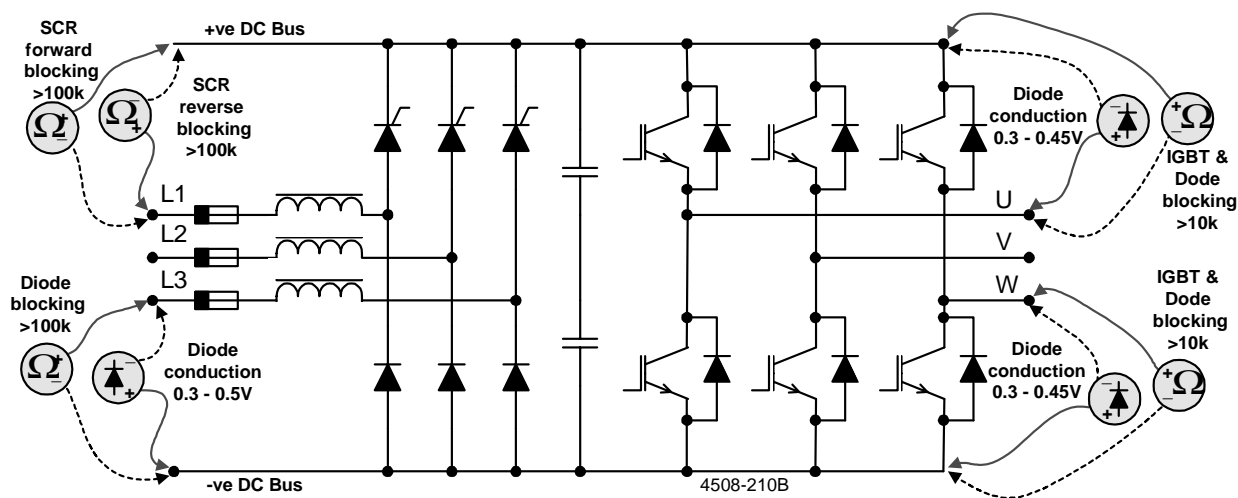
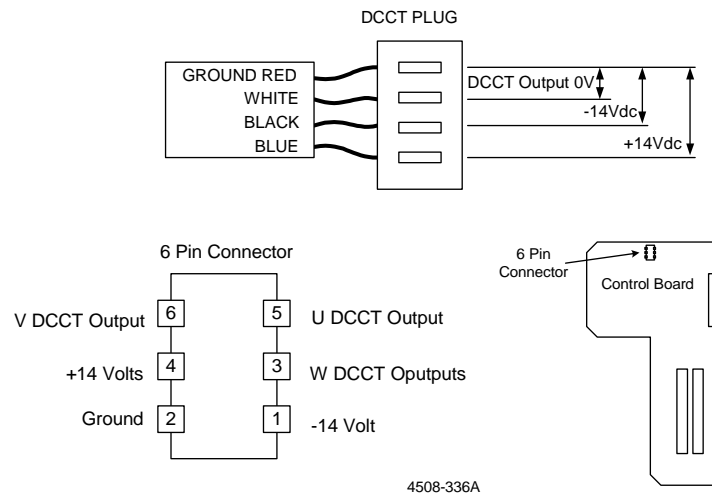

Figure 3.4: Rectifier and Inverter Testing Frame 4
Figure 3.9: DCCT and Supply Testing
Refer Figure 3.4 and using a multimeter check the rectifier as the drawing indicates.
The DCCTs measure motor current, and are located on the output of the Elite. DCCT failure may be indicated by **Fault 21 (Ground fault)** or **Fault 58 (Current imbalance)**, even with the motor disconnected. If fault 21 is apparent and the motor and motor cable have been checked, check the DCCT terminations as shown in figure 3.9 and the Inverter as shown in figure 3.4. The 6 pin connector is located at the very top of the Control board.
- 1) Power up the Elite but do not start, refer to figure 3.9. This drawing shows two options for testing the DCCTs. Test between ground and terminal 1 then ground and terminal 4 to confirm the DCCT has a $\pm 14V$ supply or test at the plug. If the $\pm 14V$ supply is not present unplug the DCCT's and recheck the $\pm 14V$ supply. If the supply has returned one or more of the DCCTs are faulty. If the supply has not returned the Control board or Power tray's switchmode power supply may be faulty, see section 3.3.4 to determine which.